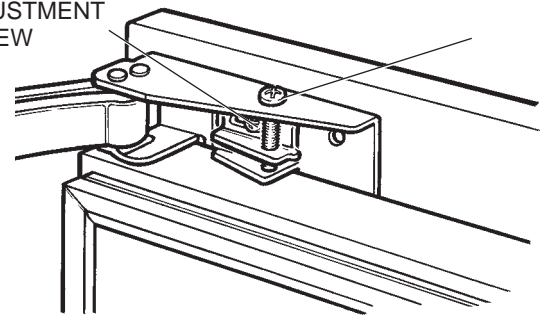

FIGURE 13 TOP BRACKET
5. Screw the top bracket to the underside of the worktop (Figure 13).
6. To finish, use the two corner brackets supplied and using the existing holes in the appliance screw to the opposite cupboard (Figure 13).